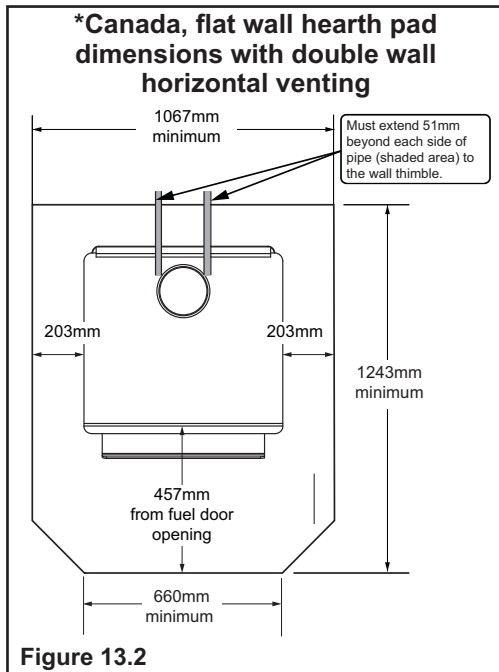

Figure 13.2
**In Canada,** similar floor protection must be provided 18 inches (457mm) in front and 8 inches (203mm) from the sides and rear of the appliance unless the hearth pad is placed against the wall (**Figure 13.2 or 14.2 on page 14**). Then the clearance may be reduced using double wall pipe and the Clearance to Combustibles table listed on page 15.
**\*Exception:** Non-combustible floor protector must extend beneath the flue pipe when installed with horizontal venting and extend 2 inches (51mm) beyond each side (**See Figure 13.2 or 14.2 on page 14**).